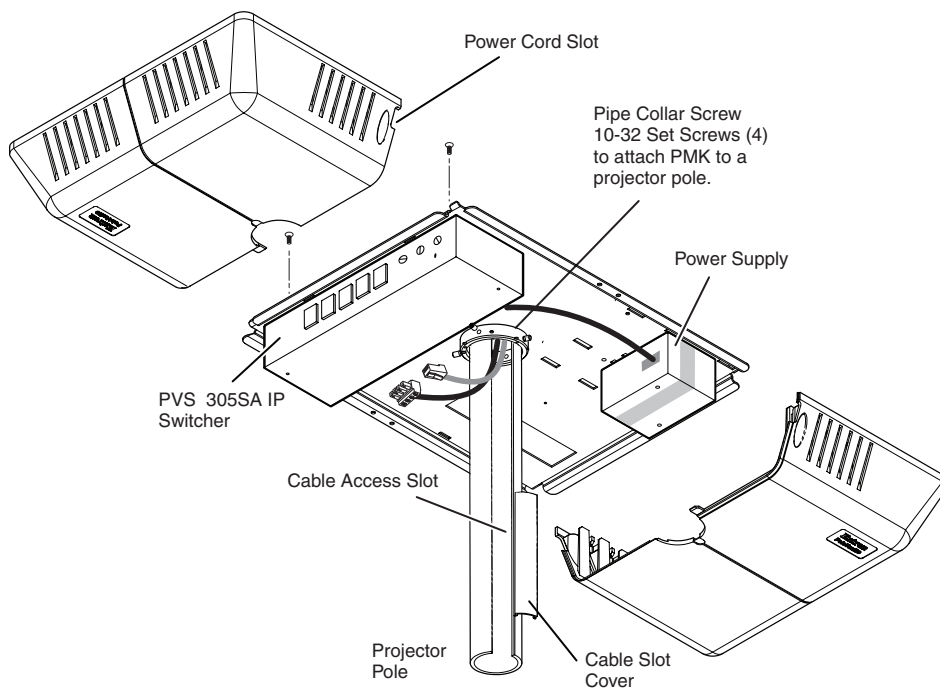

Figure 3. Attach the PMK to the pole, cable the PVS switcher (PVS 305SA IP shown) and then re-attach the two covers.
7. Route the signal cables so that they exit the pipe via the cable access slot (see figure 3).
10. Slide the covers onto the base plate, passing the AC power cord out through the slot between the covers (see figure 3).